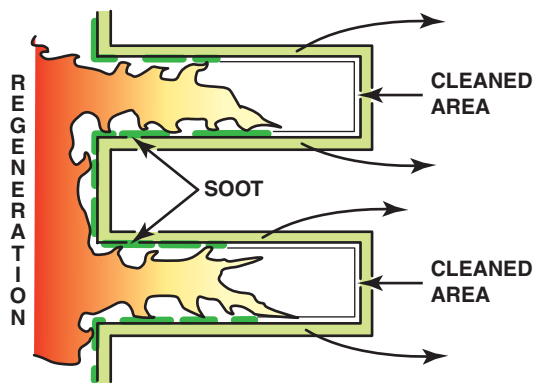

FIGURE 4-27 Regeneration burns the soot and renews the DPF.
2. Adding late post injection pulses provides the engine with additional fuel to be oxidized in the DOC, which increases exhaust temperatures entering the DPF to 900°F (500°C) or higher. ● **SEE FIGURE 4-27.**